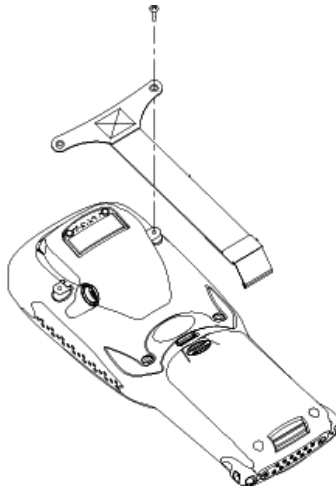

Figure 2.2 Attaching The Hand Strap
- Attach the strap to the two threaded inserts located at the back of the 7535 G2 near the top of the unit (see Figure 2.2 on page 16).